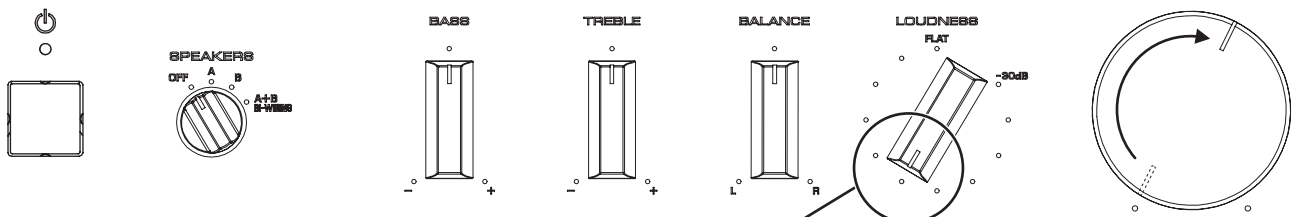

Fig. 7
- * When the "BASS", "TREBLE" and "BALANCE" knobs are set to their top positions and the "LOUDNESS" knob is set to "FLAT", the most recent protection function (the same as that indicated by turning the "BASS" knob) is indicated by the "P" (power) indicator. However, the "VOLUME" knob will not move at this time. The "VOLUME" knob will move if a protection history is selected with one of the knobs. (Fig. 7)
※ "BASS"、"TREBLE"、"BALANCE" ツマミが中央の位置にあり、"LOUDNESS" ツマミが "FLAT" の位置にある場合も "BASS" ツマミを回した時と同じ最新のプロテクション種類がパワーインジケータで表示されます。ただし、この場合 "VOLUME" ツマミは動作しません。各ツマミで履歴を選択した時に "VOLUME" ツマミは動作します。(Fig. 7)